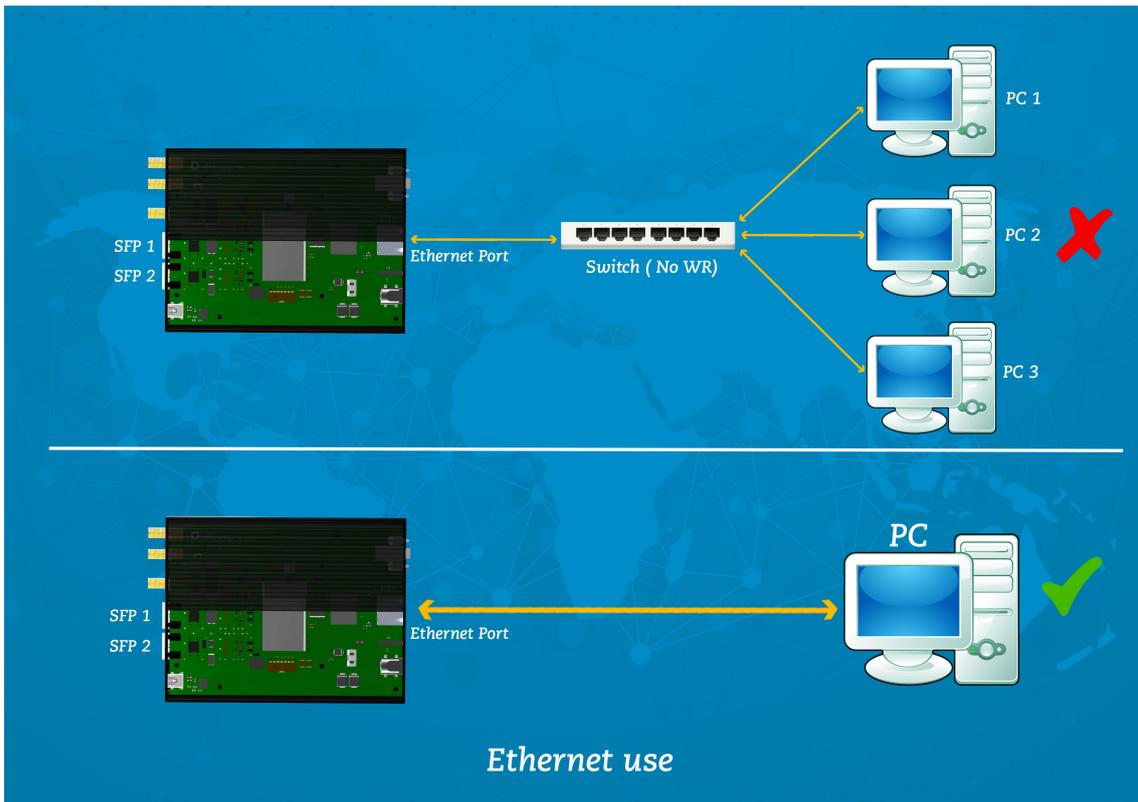

Figure 12: Back ethernet use.
- 4) **The RJ45 port is not able to deal with more than one device.** It means that connecting other switching devices as routers can cause wrong packet forwarding in the WR-LEN. Just final nodes, one ethernet port devices, are allowed to be connected in the WR-LEN RJ45 port. This restriction is detailed in the Figure 12.